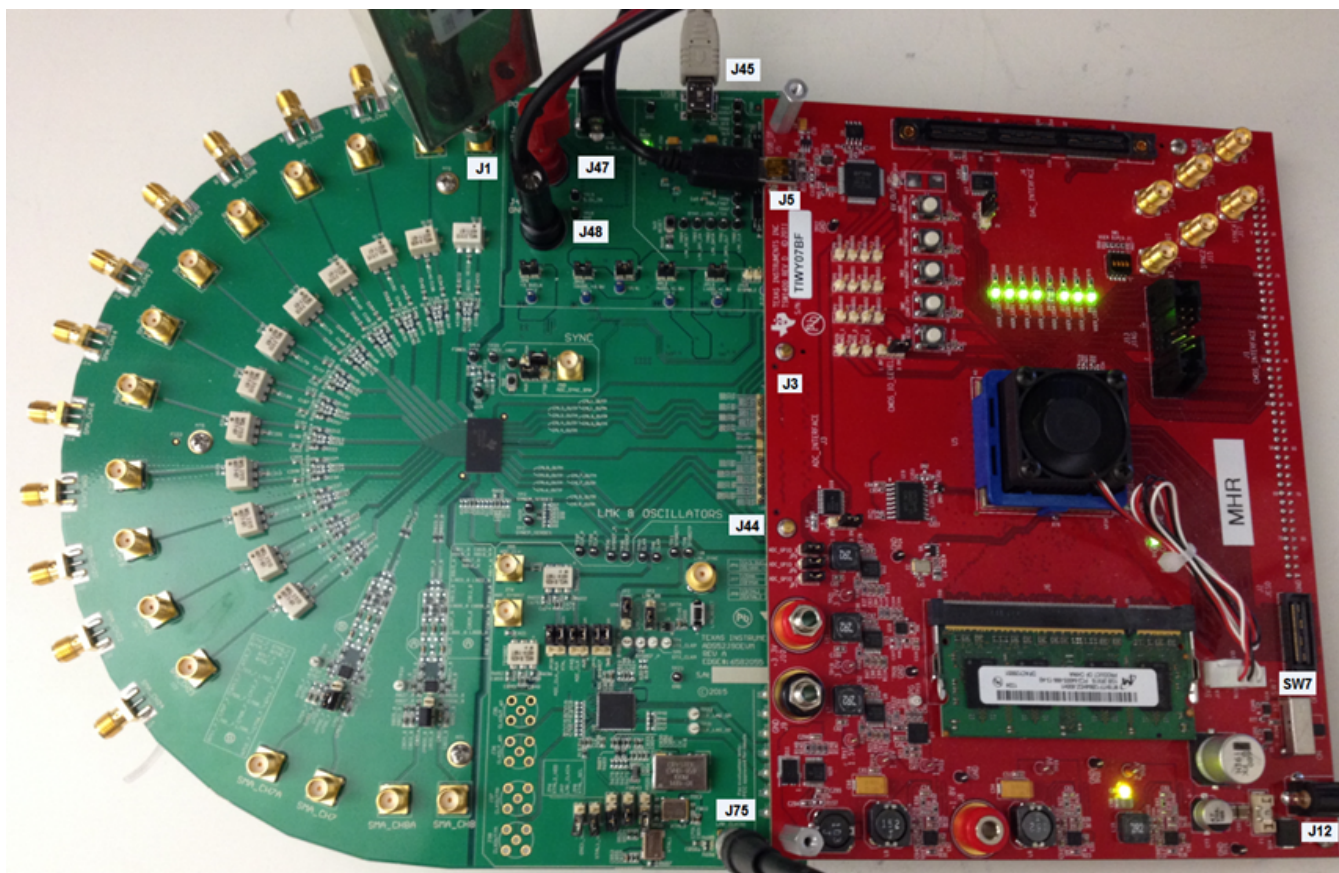
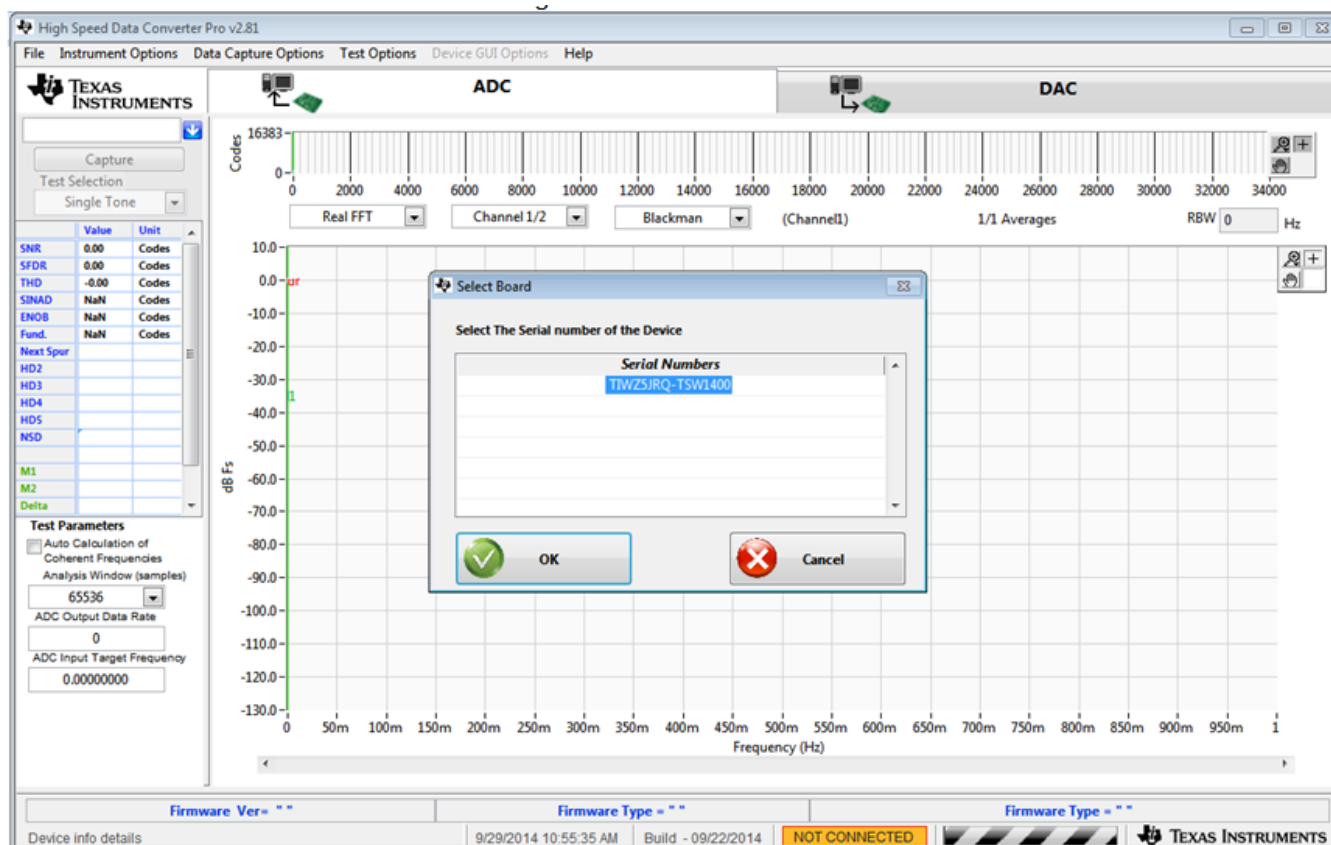

Figure 7. TSW1400 and ADS52J90 Setup
Figure 8. TSW1400 GUI Setup (a)
The connections shown in Figure 7 should be made for proper hardware setup.
- With the hardware setup shown in Figure 7 established, launch the *High Speed Data Converter Pro* GUI. The GUI should automatically detect the serial number of the TSW1400 EVM connected as shown in Figure 8. Click on OK.